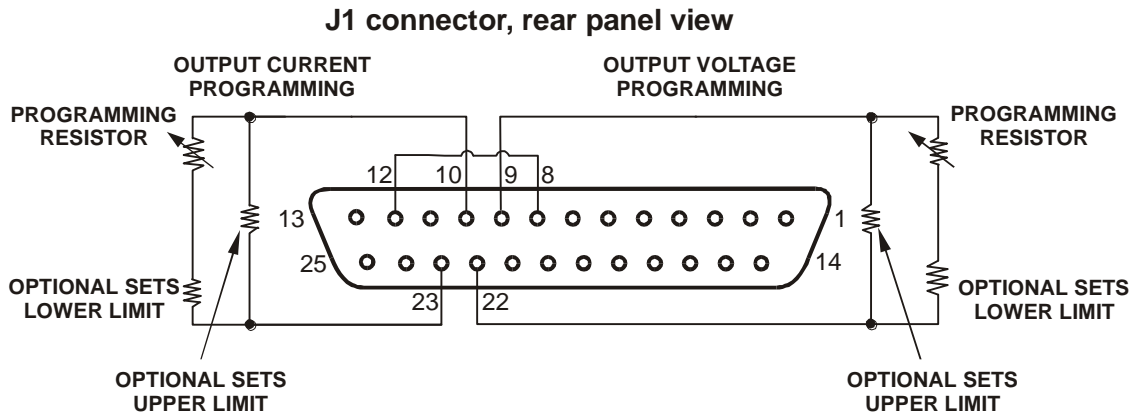

Fig.6-2: Remote resistive programming
- f) Connect the programming resistors to the mating plug of J1 as shown in Fig.6-2.